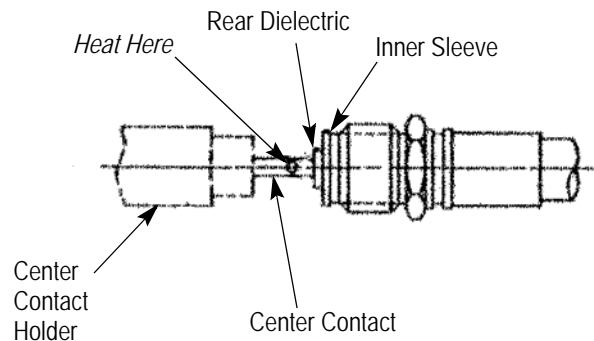

Figure 5
## 2.3. Soldering the Center Contact to Cable Inner Conductor (Figure 5)
**NOTE** The large diameter of the contact must rest firmly against the rear dielectric. See Figure 5.